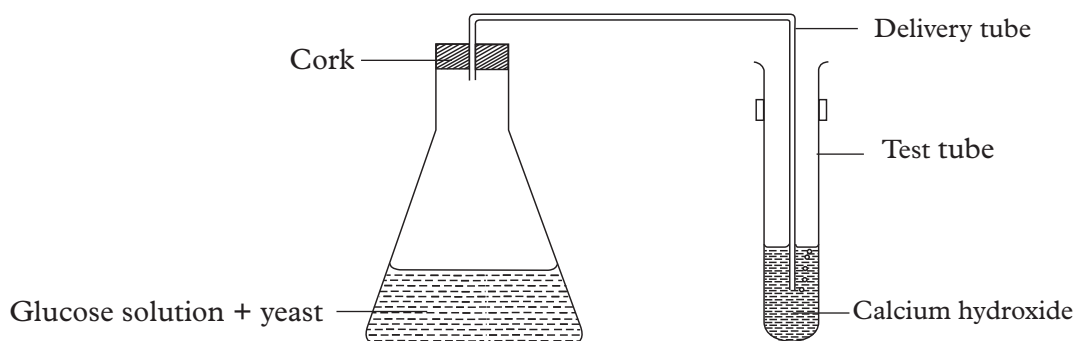

Fig. 9.3: Set-up to demonstrate the fermentation process
2. Connect a delivery tube with a tight fitting cork to the conical flask and boiling tube containing calcium hydroxide solution as illustrated in Fig. 9.3.